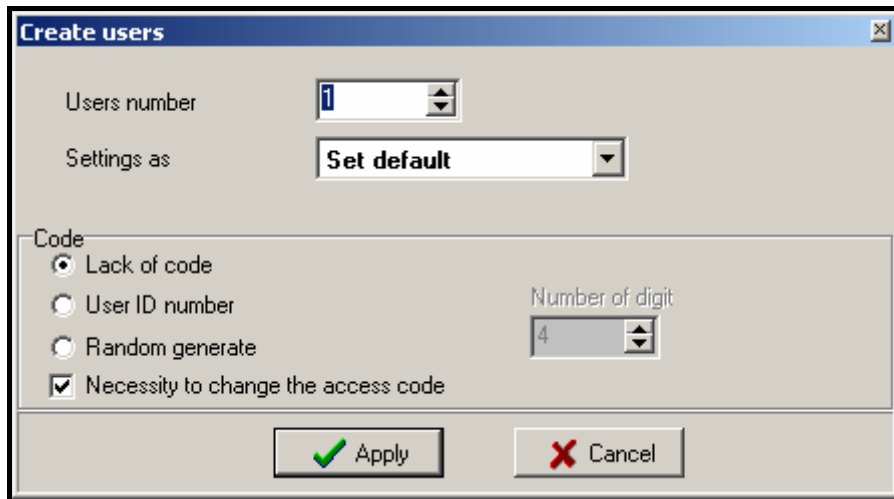

Fig. 25. Window for adding new users.
2. Click with your mouse on the button designated ADD USER. The CREATE USERS window will be displayed (see Fig. 25).
7. Having defined settings of the group, you can assign users to it. The users created earlier can be assigned to the group, e.g. by the “drag and drop” method. The newly created users will be assigned to a selected group, if exactly that group is selected in the SETTINGS AS field of the CREATE USERS window (see ADDING NEW USERS BY MEANS OF ACCO-SOFT-LT PROGRAM and Fig. 25).